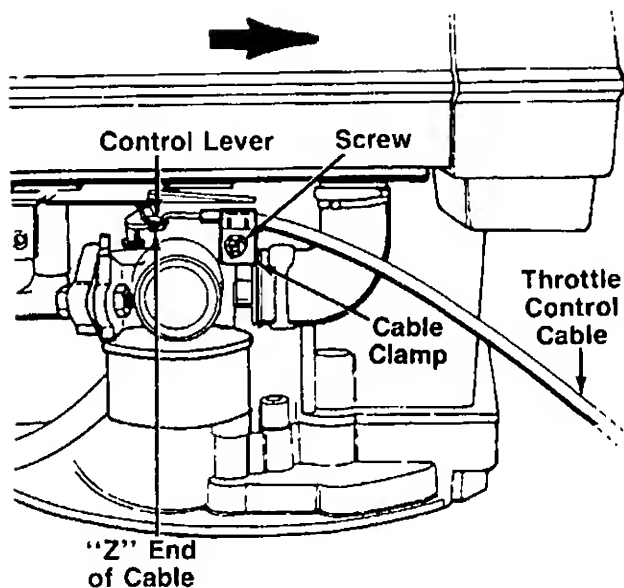

FIGURE 6B.—Models 435R and 438R
2. The throttle control cable is attached to the upper handle. Route the throttle control cable under the lower handle and inside the handle mounting bracket. Hook the "Z" end of the throttle control cable into the control lever on the engine as shown in figure 6B.
3. Loosen (do not remove) the screw on the cable clamp shown in figure 6B. Slip the control casing under the clamp (cable must move freely beneath the clamp).